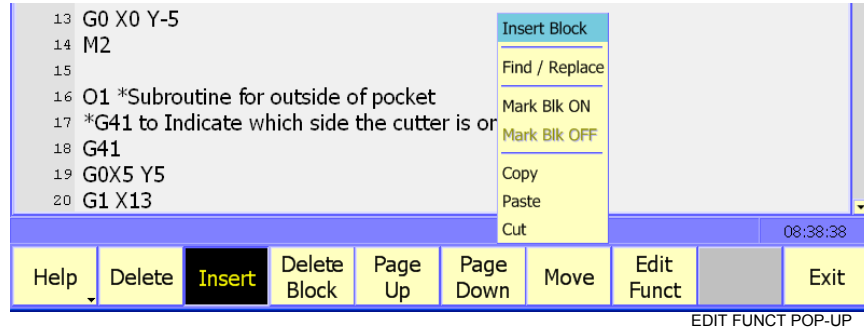

Figure 6-4, Edit Funct (F8) Pop-up Menu
Press **Edit Funct (F8)** to display the Edit Funct pop-up menu. Refer to **Figure 6-4** and **Table 6-3**.
2. Press **Edit Funct (F8)** to display the pop-up menu. Refer to Figure 6-4. Edit Funct \(F8\) Pop-up Menu.
1. In Edit Mode, press **Edit Funct (F8)** to display the pop-up menu. Refer to Figure 6-4. Edit Funct \(F8\) Pop-up Menu.
2. Press **Edit Funct (F8)** to display the pop-up menu. Refer to Figure 6-4, Edit Funct \(F8\) Pop-up Menu.